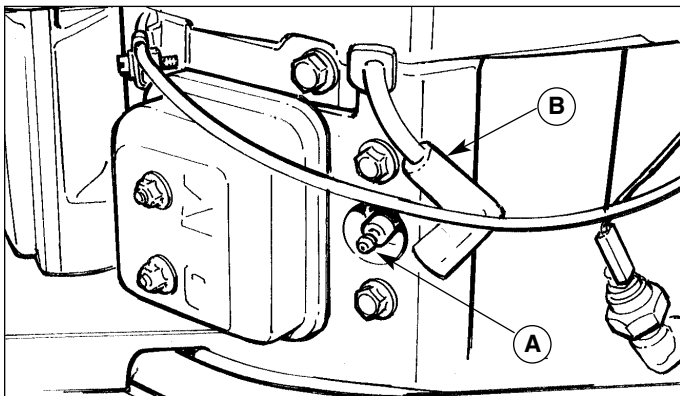

Figure 5. Typical Spark Plug Location
3. Locate the spark plug cable and boot, and pull the boot off the spark plug (Figure 5).